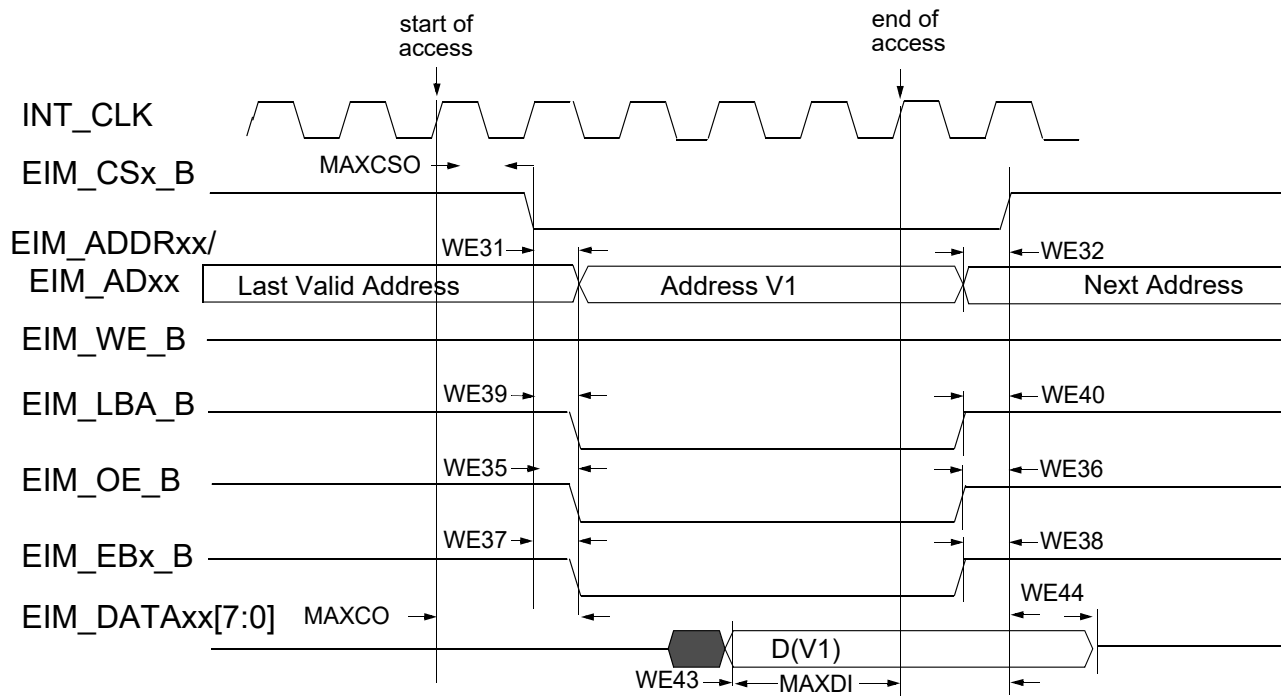
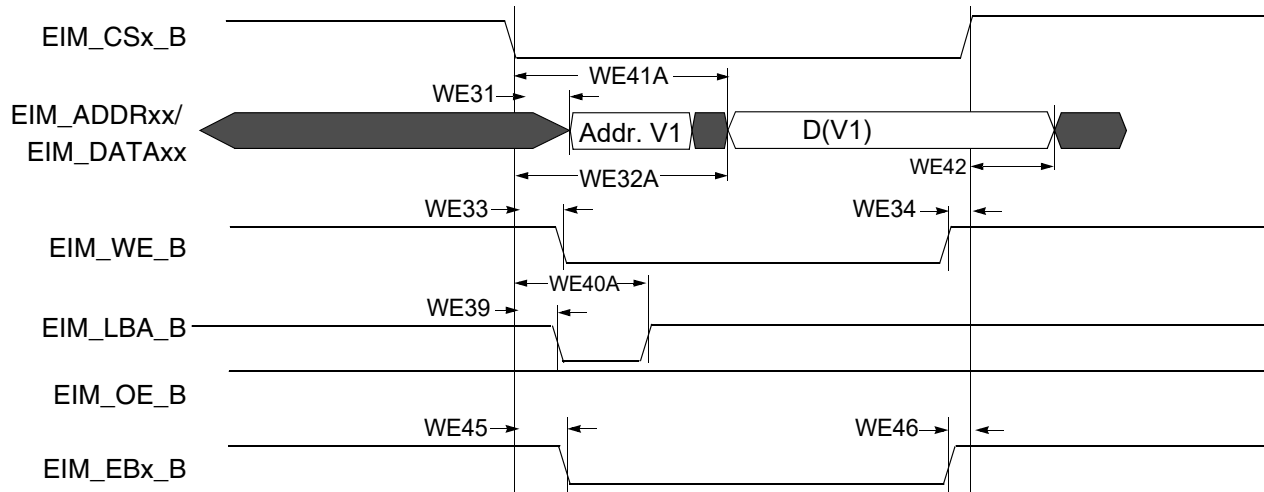

Figure 16. Asynchronous Memory Read Access (RWSC = 5)
Figure 19. Asynchronous A/D Muxed Write Access
Figure 16 through Figure 21, and Table 45 help you determine timing parameters relative to the chip select (CS) state for asynchronous and DTACK EIM accesses with corresponding EIM bit fields and the timing parameters mentioned above.
Asynchronous read and write access length in cycles may vary from what is shown in Figure 16 through Figure 19 as RWSC, OEN and CSN is configured differently. See the *ii.MX 6SoloX Applications Processor Reference Manual (IMX6SXR)* for the EIM programming model.